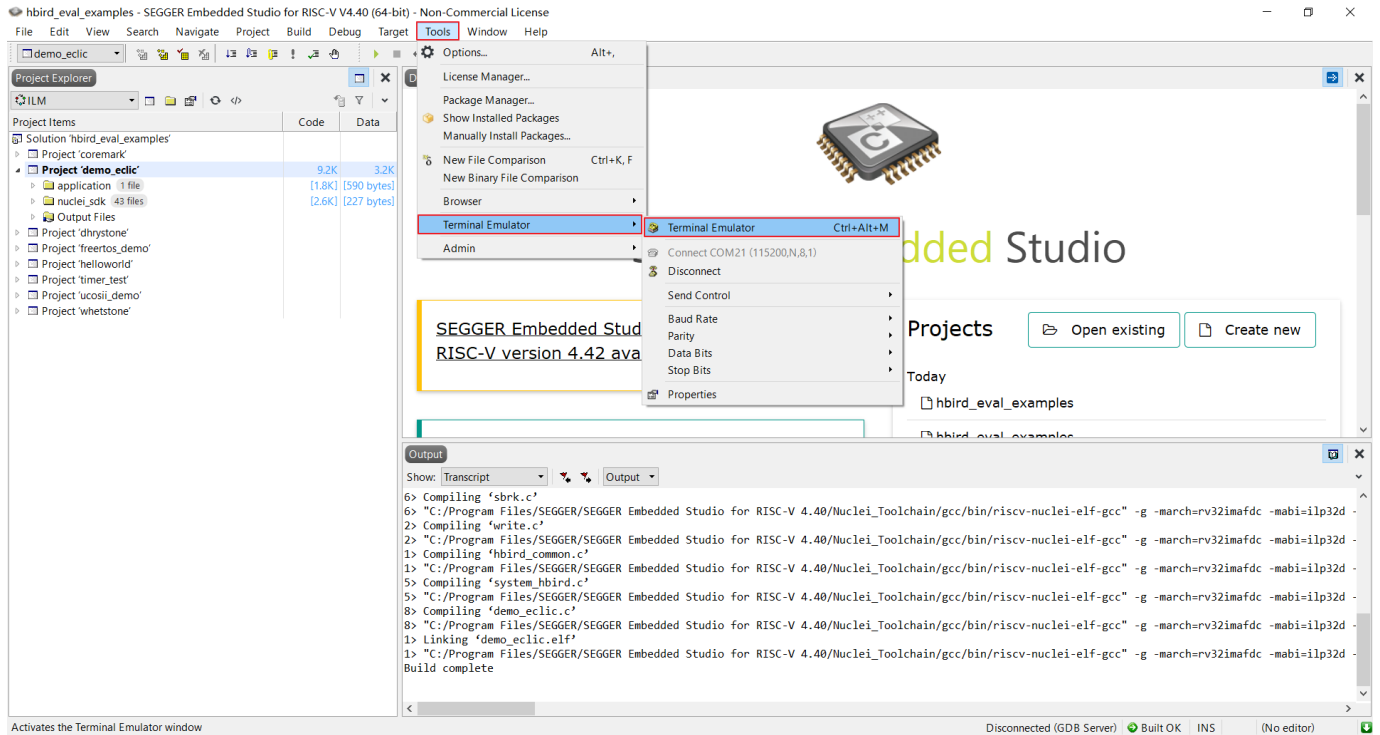

Figure 4-8 Open SES Serial Port Tool
- After connecting the Hummingbird Debugger Kit, as shown in Figure 4-8, select “Tools - > Terminal Emulator --> Terminal Emulator” in the menu bar to open the Serial Port tool.